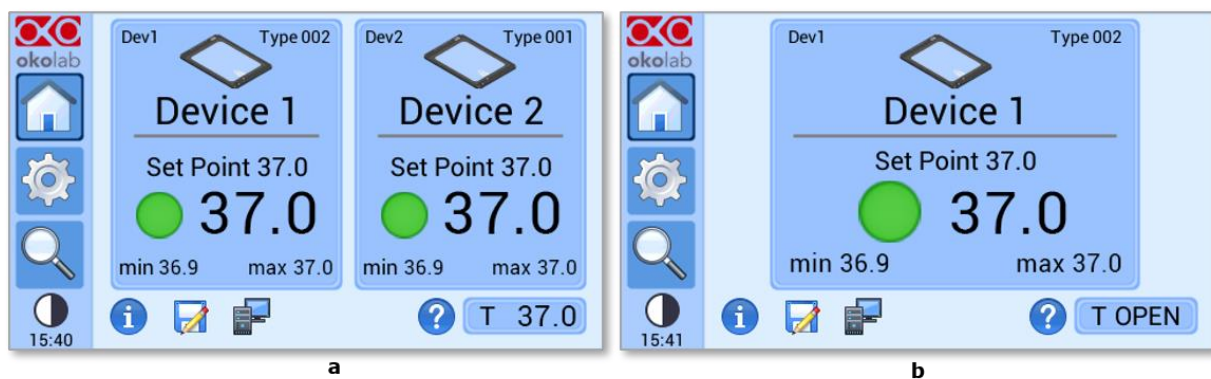

Figure 10. Home Page. (a) Two devices connected; (b) One device connected.
**Note** ► Homepage will appear as in Figure 10(a) if the two heating devices are connected and as in Figure 10(b), if only one device is connected.